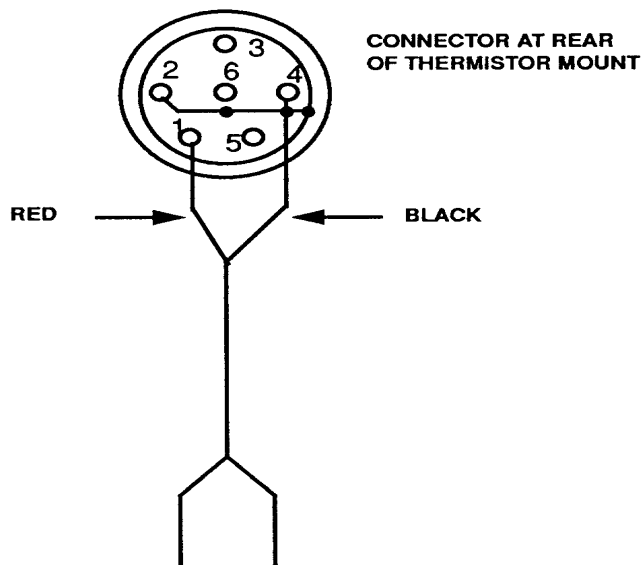

Figure 1. Power measurement system adapter/cable fabrication.
CABLE ADAPTER SHORT, FIXED	Hewlett-Packard, Model 11528A (or fabricate according to figure 1) Maury, Model K344A (18 to 26.5 GHz) Maury, Model U344A (26.5 to 40 GHz)
**a.** If Hewlett-Packard, Model 11528A adapter/cable is not available, fabricate adapter/cable according to figure 1.